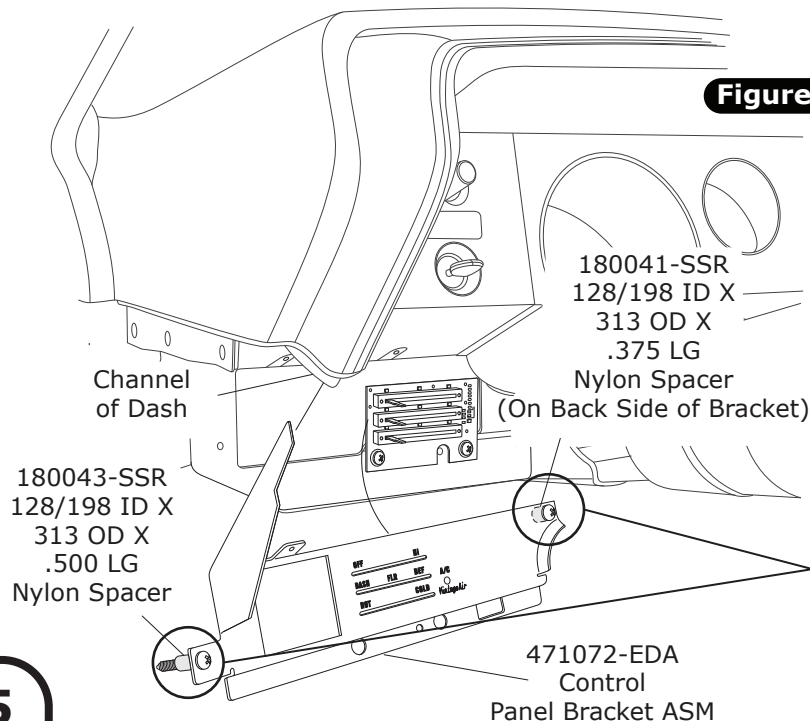

Figure 4
1. Install control panel bracket assembly (See Figures 4 & 4a, below). **NOTE: Left side of bracket installs in the channel of the dash as in OEM panel.**